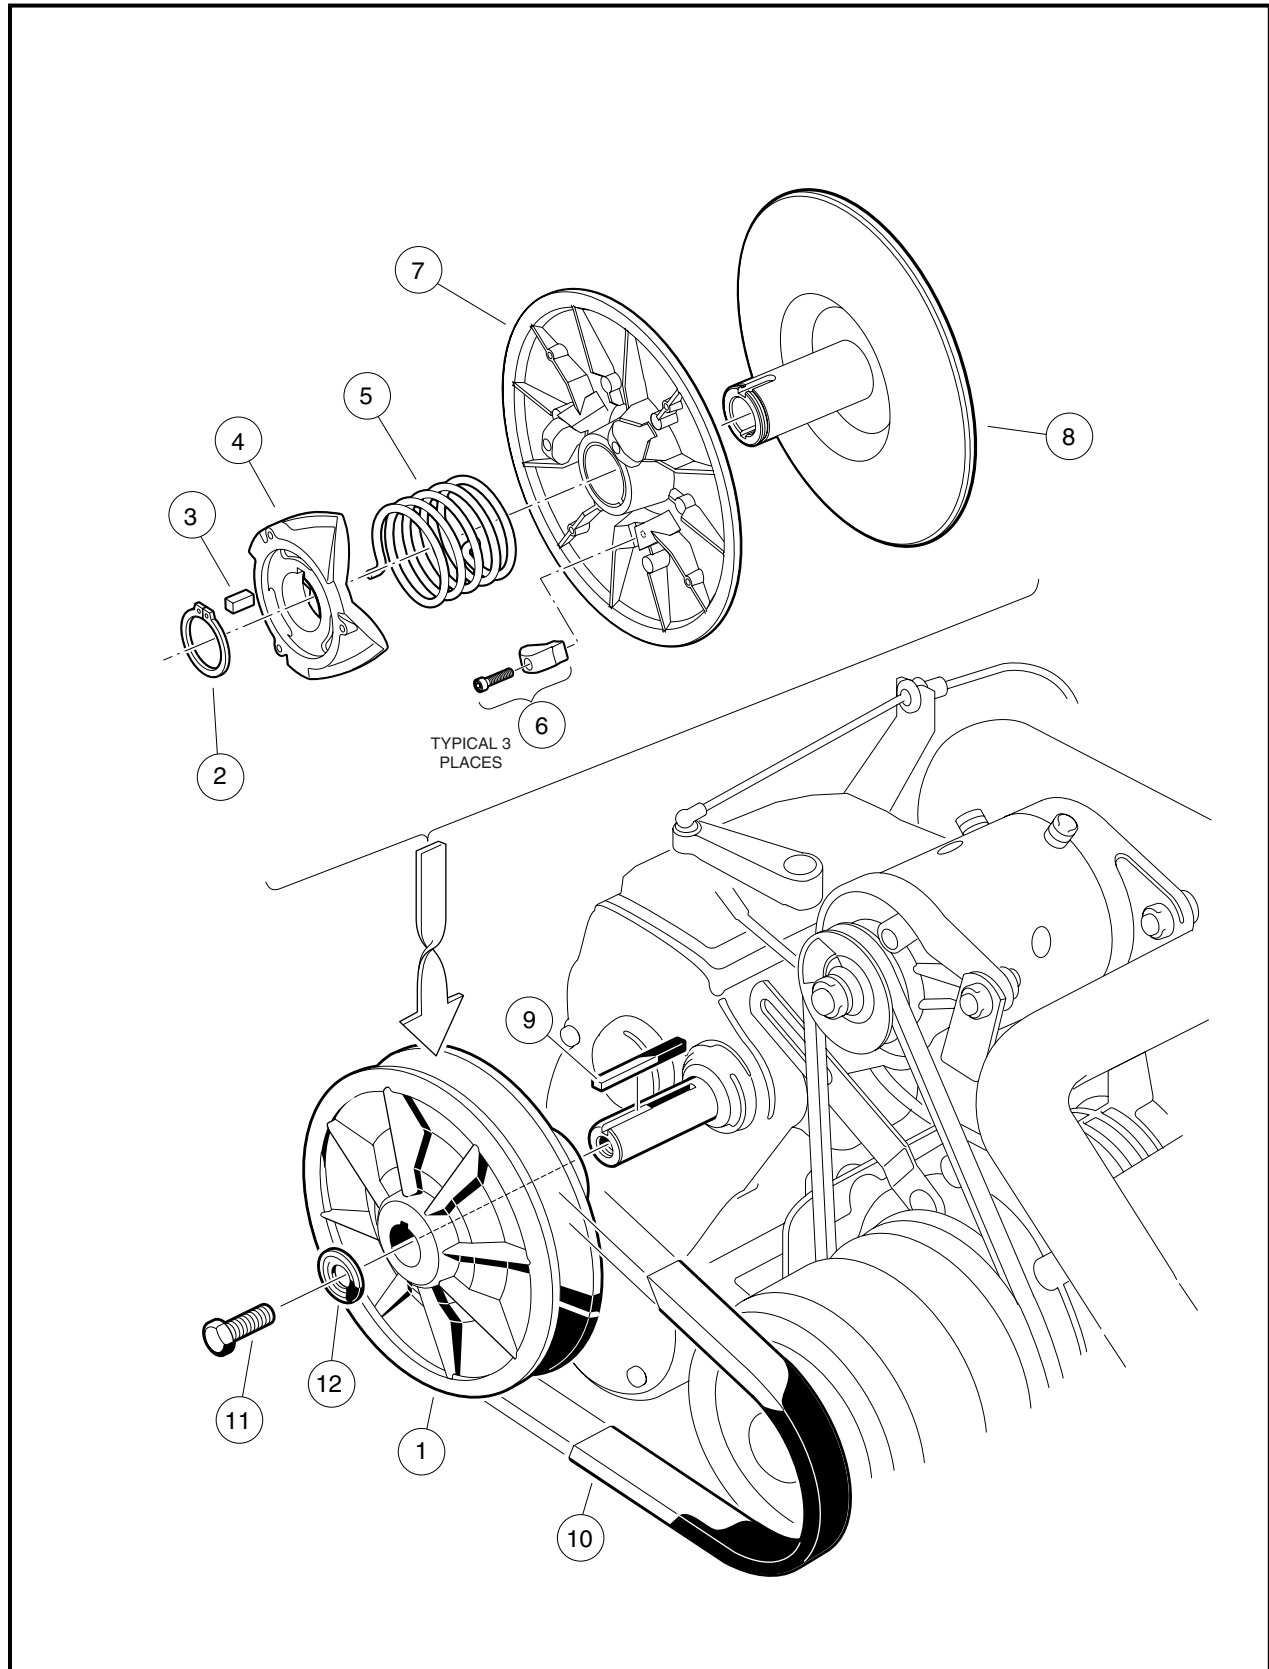
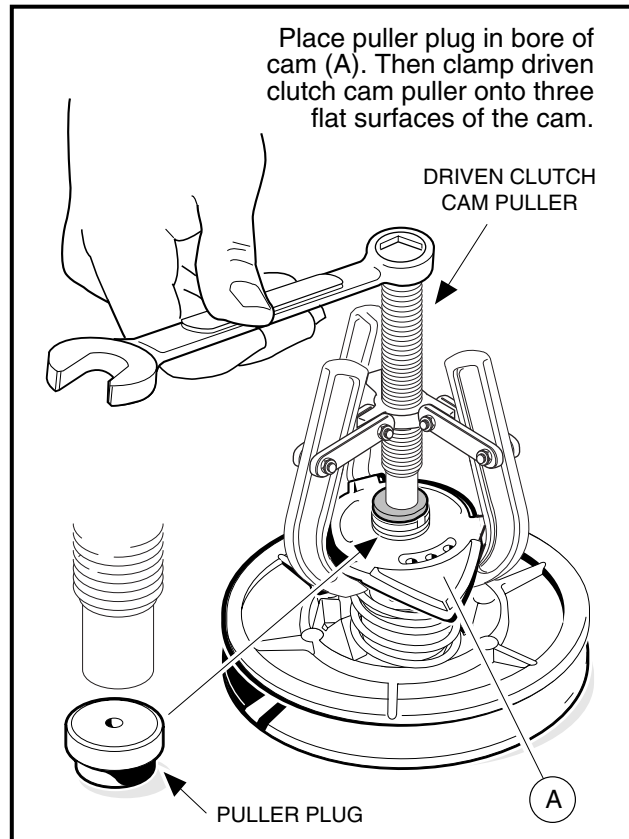

Figure 17-16 Driven Clutch Assembly
Figure 17-18 Driven Clutch Disassembly
5. Remove the bolt (11) and mounting washer (12) from the clutch shaft (**Figure 17-16, Page 17-14**).
7. Leave the key (9) in the keyway (**Figure 17-16, Page 17-14**).
2. Insert a puller plug (CCI P/N 1014507) (**Figure 17-18, Page 17-15**) into the shaft bore and use a driven clutch cam puller (CCI P/N 1014508) to remove the cam (4) from the fixed face shaft (8). Retain the key (3) (**Figure 17-16, Page 17-14**).
3. Remove the spring (5) (**Figure 17-16, Page 17-14**).
4. Slide the moveable face (7) off the fixed face shaft (8) (**Figure 17-16, Page 17-14**).
1. Inspect the cam (4) for excessive wear. Replace it if necessary (**Figure 17-16, Page 17-14**).
2. Inspect the drive buttons (6) for excessive wear. Replace if necessary. To remove the drive buttons, remove the socket-head cap screws and then the buttons.
1. Place the three drive buttons (6) in position. Apply one drop of Loctite® 222 to each of the socket head cap screws and then install and tighten them to 8 in-lb (0.9 N·m) (**Figure 17-16, Page 17-14**).
2. Slide the moveable face assembly (7) onto the fixed face shaft (8).
3. Place the end of the spring (5) into hole in the moveable face assembly.
4. Install the key (3) into the keyway of the fixed face assembly (8) shaft.
5. Holding the cam (4) in position for assembly on the shaft, install the other end of the spring (5) into the center spring hole of the cam. Rotate the cam until the keyway is aligned with the key (3) on the fixed face assembly, and then start the cam onto the shaft approximately 1/4 to 3/8-inch (6.3 to 9.5-mm).
- 5.1.3. Install the retaining ring (2) (**Figure 17-16, Page 17-14**). **See following NOTE.**
1. To install the driven clutch, reverse the removal procedure. Make sure that the washer (12) is mounted with the flat portion of the washer against the driven clutch as shown (**Figure 17-16, Page 17-14**). Secure with a *new* bolt (11). **See following NOTE.**
**NOTE:** The bolt (11) must be replaced with a new bolt (CCI P/N 102242101) containing a locking patch that will prevent the bolt from loosening.
2. Tighten the bolt (11) to 14 ft-lb (19.0 N·m).